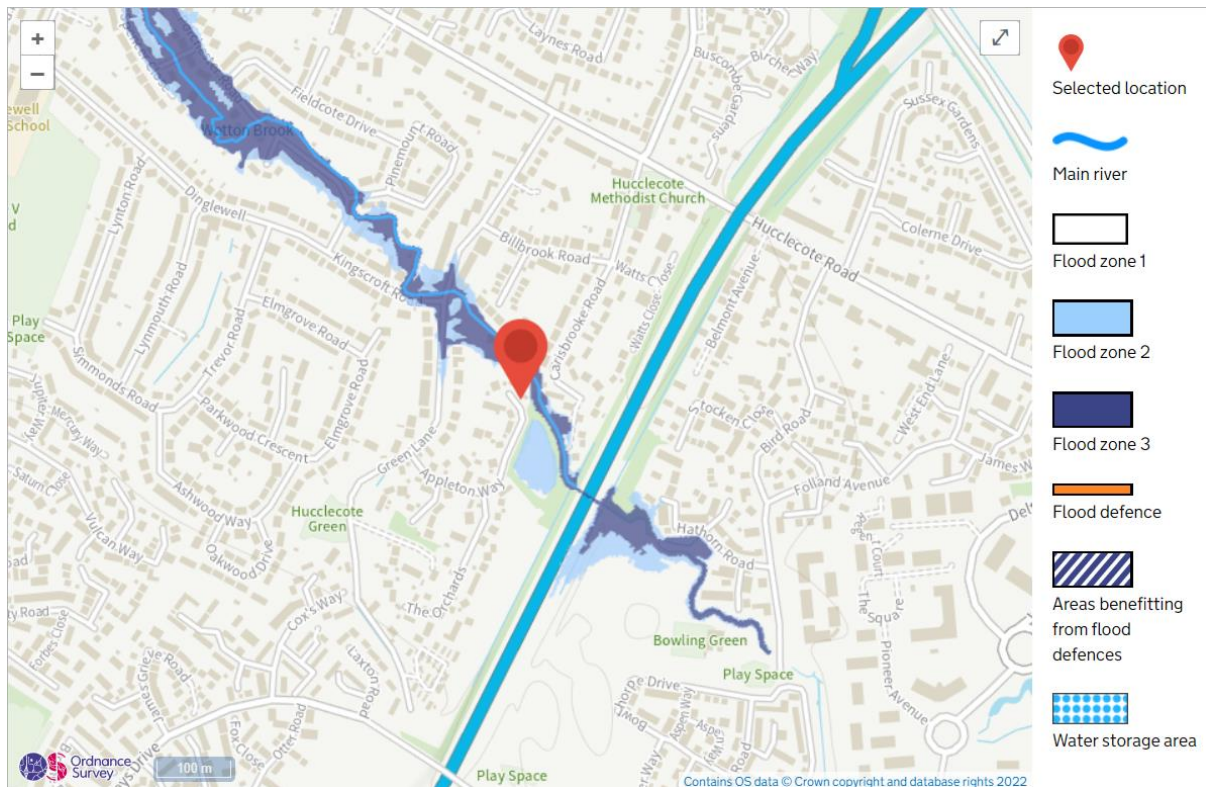

Figure 1
19 Appleton way borders within Flood Zone 2/3 (Medium/high) according to the Environment Agency (EA) Flood Maps for Planning. (Figure 1)